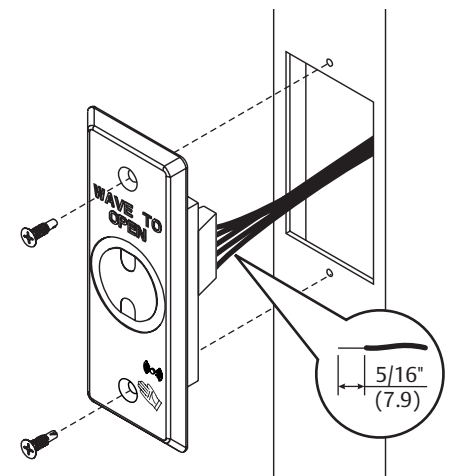

Figure 8
2. Strip sheath from each wire end exposing 5/16" (7.9) to prepare wires for connection. (Fig 8)
5. Attach Wave to Open switch to door frame using two (2) #6 Flat Head Drilling screws supplied by others. (Fig 8)